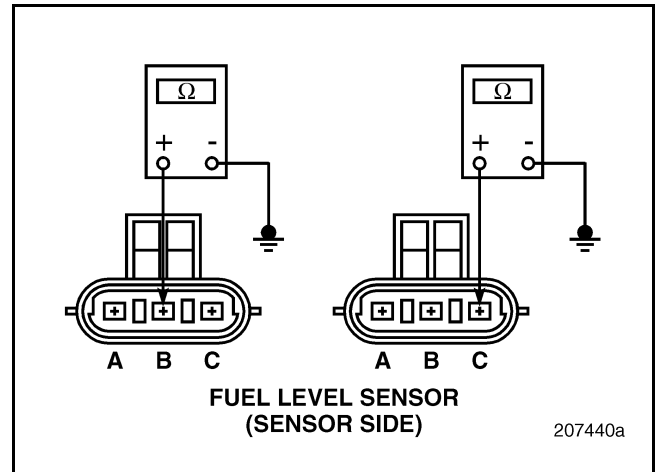

Figure 608
2. Disconnect the Fuel Level (FL) Sensor.
3. Check for continuity between pins B and C of the Fuel Level (FL) Sensor pigtail connector and a good ground (see Figure 608).